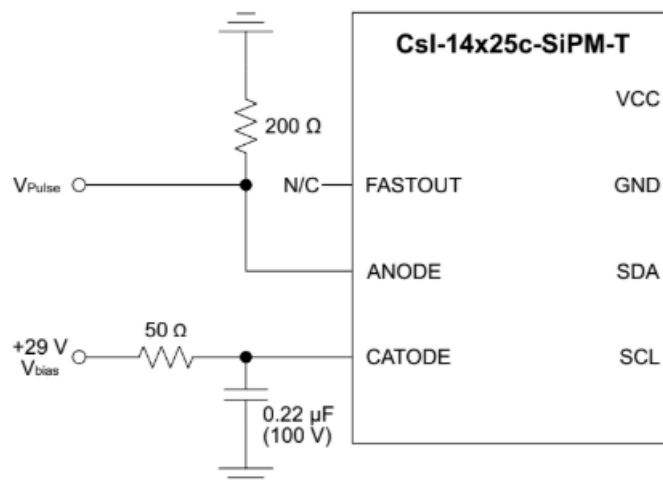

Figure 4: Diagram for the CsI detector circuit.
3. The detector diagram (Figure 4) shows the pins you will need. You will use two connections: CATHODE (bias voltage) and ANODE (signal output). *Done*